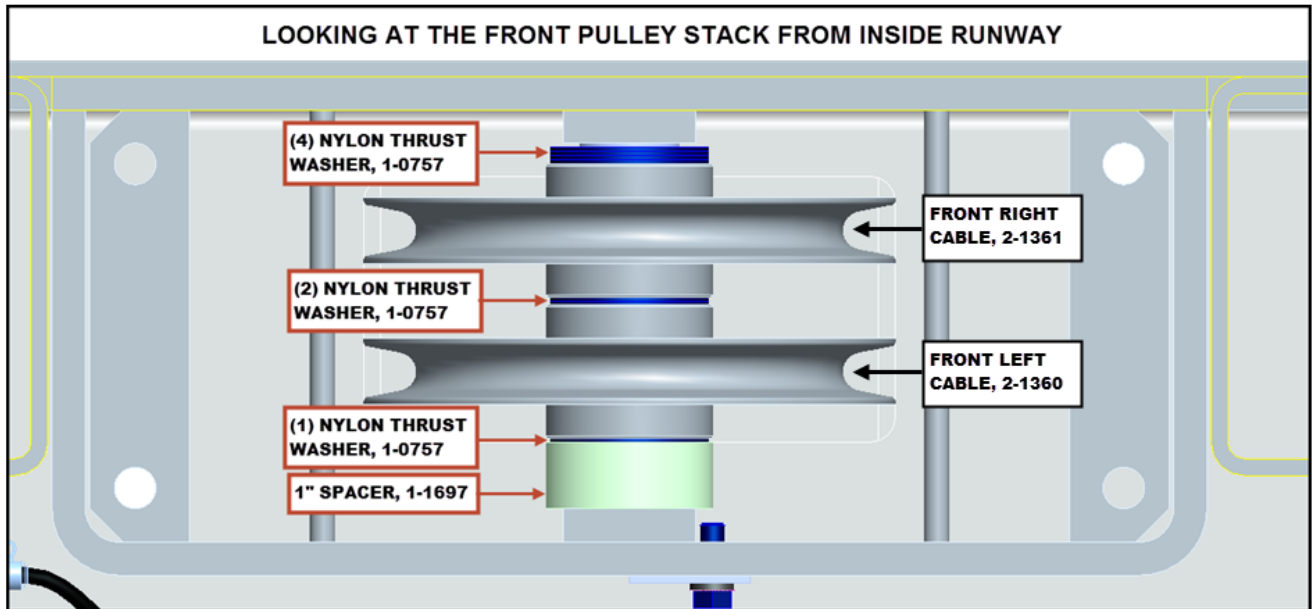
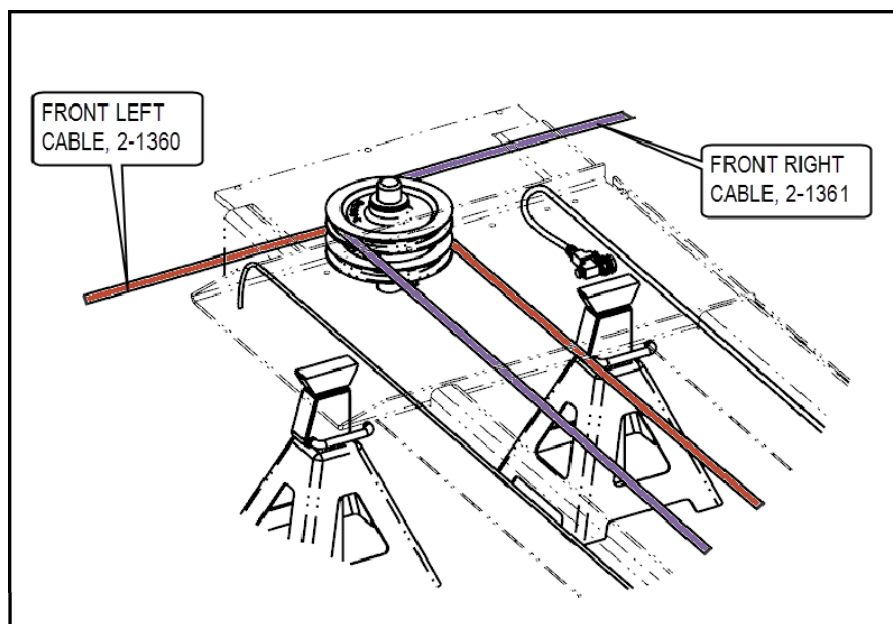

Figure 10. Front Pulley Stack Assembly
Figure 11. Front Right and Rear Left Cable Installed at Front
11. Use **Figure 10** as reference during the front pulley stack and cable assembly.
13. Referring to **Figure 10** and **Figure 11**, assemble the pulley stack with cables as shown.